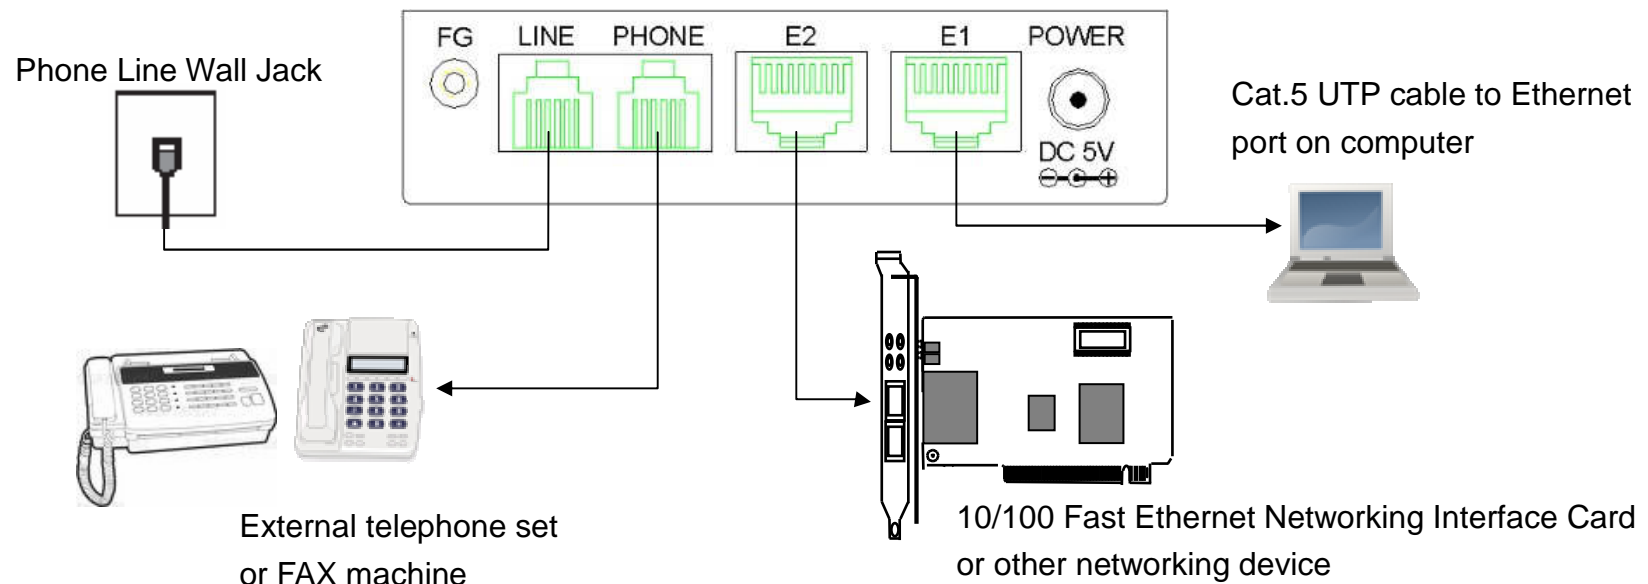

Figure 3.1 Modem use as adapter to connect RJ-11 and the LAN card
1. The Modem's RJ-11 ports support the transmission of data up to 1Mbps across existing phone wiring, without interfering with standard voice transmissions, easy-to-use does not require the installation of any additional wiring. Every RJ-11 modular phone jack in the home can become a port on the LAN. Multiple PC, peripherals, or networking devices can be installed on a single telephone wire that can span within 500M (1600 feet with 24guage phone wire) between two farthest points. (Figure 3.1)